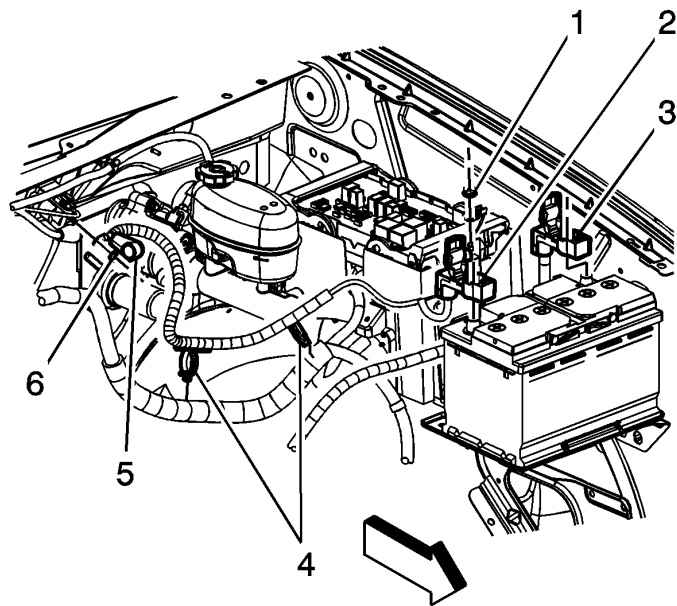

Fig. 4 Auxiliary battery cable disconnection
7. Loosen auxiliary battery ground cable nut (3), **Fig. 4**.
10. Loosen auxiliary battery positive cable nut (2), **Fig. 4**.
5. **Torque** auxiliary battery positive cable nut (2) to 66 inch lbs., **Fig. 4**.
- nut (3) to 66 inch lbs., **Fig. 4**.